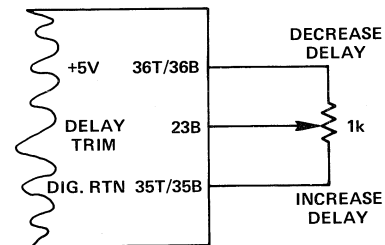

Figure 10. Delay Trim
The DLY OUT signal may be adjusted to vary the A/D converter triggering time by means of the external circuitry shown in Figure 10. An open DLY TRIM terminal (Pin 23B) results in a nominal delay time of $3.0\mu s$. A grounded DLY TRIM terminal (for highest-accuracy) results in $20\mu s$ delay time nominal.
- (1) **NORMAL** (input channel remains selected during its A/D conversion). Connect Pin 23T ($\overline{\text{DLY OUT}}$) to Pin 27T ($\overline{\text{TRIG}}$).
- (2) **OVERLAP** (next channel is selected during A/D conversion). Connect Pin 27B ($\overline{\text{EOC}}$) to TTL compatible inverter input. Connect inverter output to Pin 24T ($\overline{\text{STROBE}}$). Connect Pin 23T ($\overline{\text{DLY OUT}}$) to Pin 27T ($\overline{\text{TRIG}}$). Adjust the delay to at least $4\mu\text{s}$ greater than $\overline{\text{EOC}}$, $20\mu\text{s}$ max (see Figure 10). The signal on Pin 26T ($\overline{\text{TRIG}}$) serves as RUN/STOP control.
- (3) **REPETITIVE SINGLE CHANNEL.** After selecting the input channel to be repetitively sampled (see MUX ADDRESS MODE, above), set Pin 27T ($\overline{\text{TRIG}}$) to Logic "0". Connect Pin 26T ($\overline{\text{TRIG}}$) to a triggering source. Conversion process is initiated by positive edge of TRIG command.